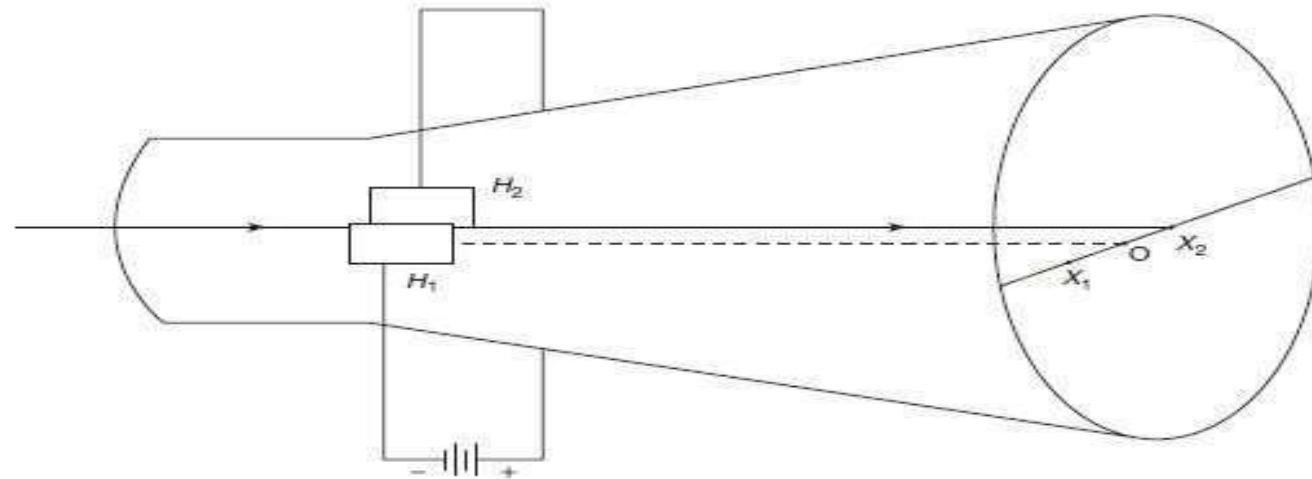

Figure 14-3(b) Deflecting system using parallel horizontal plate
- To deflect the beam horizontally, an alternating voltage is applied to the horizontal deflecting plates and the spot on the screen horizontally, as shown in Fig. 14-3(b).